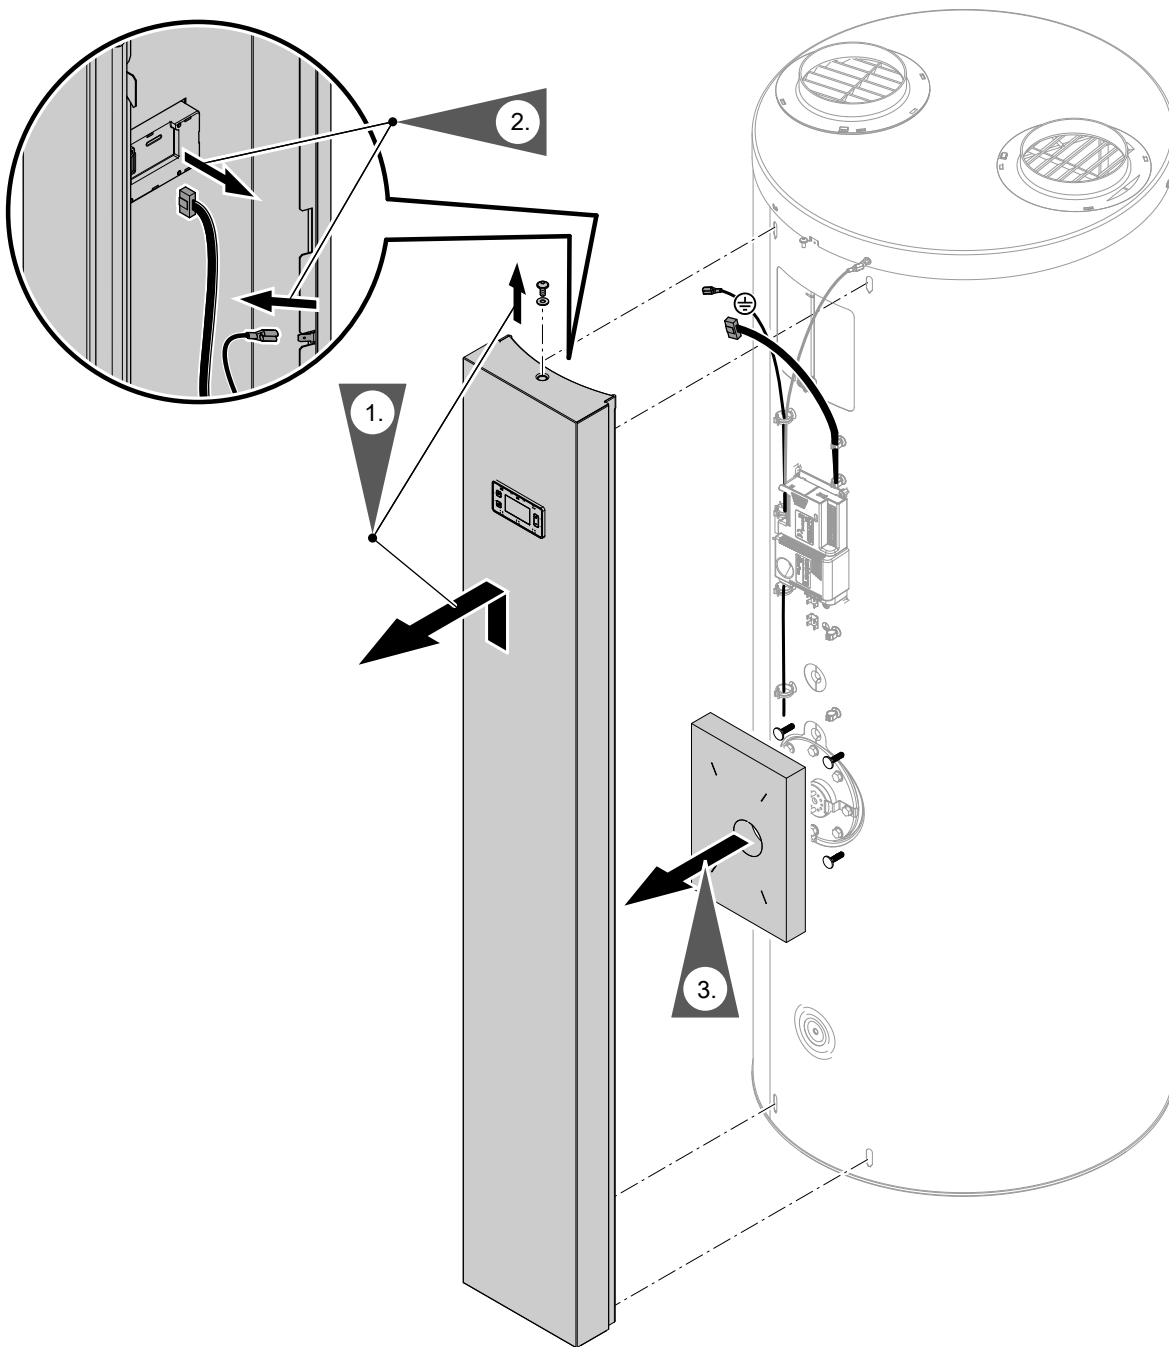

Fig. 27
3. Remove the front cover. See Fig. 27.
- (A) Heat pump control unit
- (B) Reset button:
- (C) Button shown at bottom: Reset
- (D) Button shown at top: Locked out
2. Remove the front cover. See Fig. 27, page 40.
3. Disconnect all cables (B) from heat pump control unit (A).